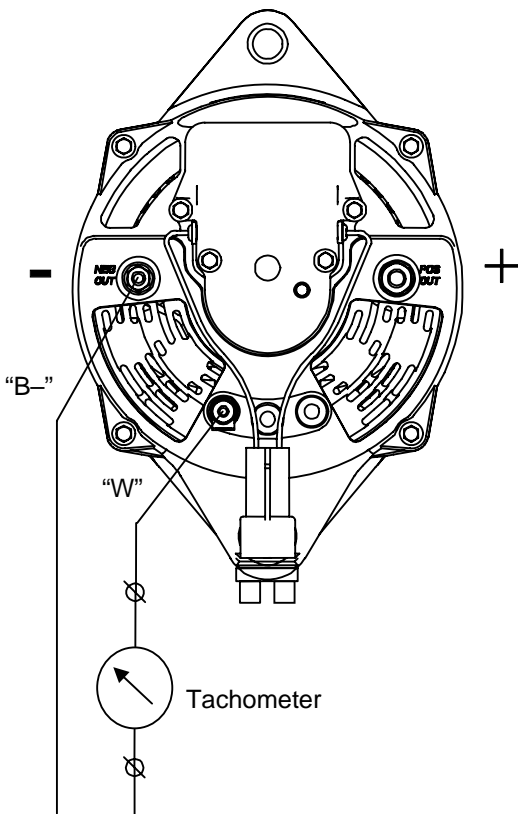

Figure 9: Connection of a tachometer (position of the terminals may differ; see APPENDIX figures A-6 till A-9)
- See reference ⑦. Attach the temperature sensor to the battery and connect the RJ12 connector to the Alpha Pro regulator as indicated.
If a tachometer is used, it should be connected between the W terminal of the alternator (see reference ⑧) and the B- terminal of the alternator (or the NEG pole of the battery). See figure 9.